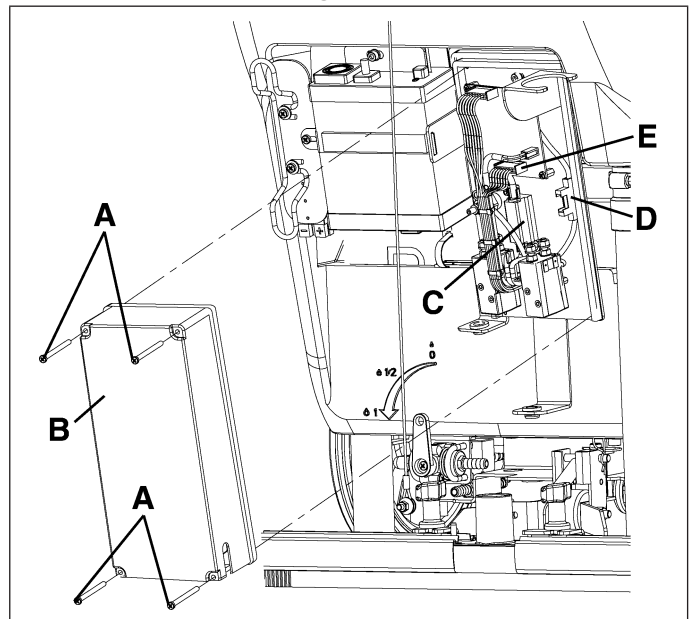

Figure 32
3. Remove the screws (A, Fig. 32) and remove the electrical component box cover (B).
- Brush fuse (C, Fig. 32): (40 A)
- Vacuum system fuse (D, Fig. 32): (40 A)
- Solenoid valve and electronic board fuse (E, Fig. 32): (5 A)